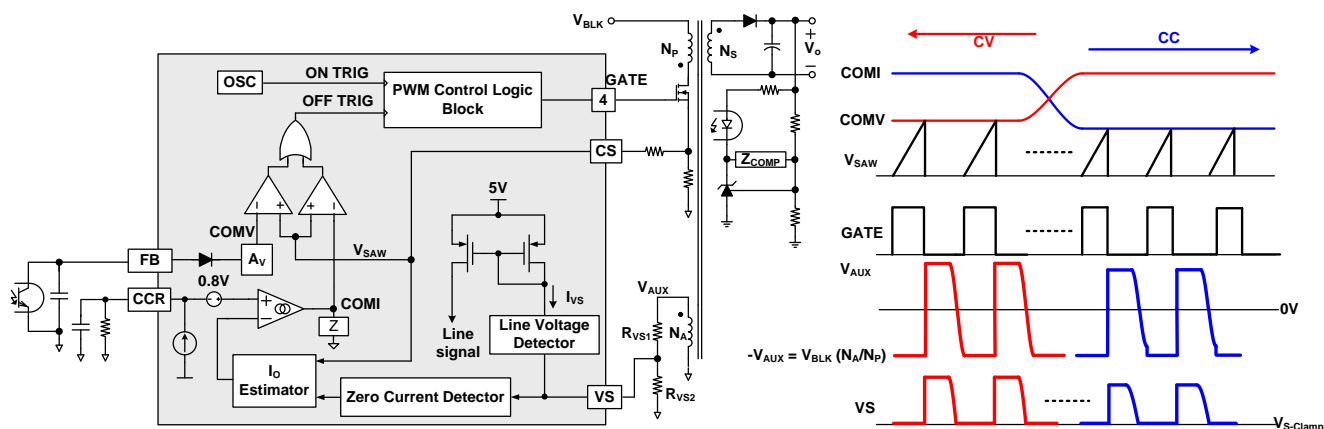

Figure 27 Simplified PWM Control Circuit and PWM Operation for CV/CC Regulation
The FAN604 indirectly senses the line voltage through the VS pin while the MOSFET is turned on, as illustrated in Figure 27. MOSFET turn-on period, the auxiliary winding voltage,  $V_{AUX}$ , is proportional to the input bulk capacitor voltage,  $V_{BLK}$ , due to the transformer coupling between the primary and auxiliary windings. During the MOSFET conduction time, the line voltage detector clamps the VS pin voltage to  $V_{S-Clamp}$  (0 V), and then the current  $I_{VS}$  flowing out of VS pin is expressed as:
Figure 27 shows a simplified CV / CC PWM control circuit of the FAN604. The Constant Voltage (CV) regulation is implemented in the same manner as the conventional isolated power supply, where the output voltage is sensed using a voltage divider and compared with the internal reference of the shunt regulator to generate a compensation signal. The compensation signal is transferred to the primary side through an opto-coupler and scaled down by attenuator  $A_V$  to generate a COMV signal. This COMV signal is applied to the PWM comparator to determine the duty cycle.
These two control signals, COMV and COMI, are compared with an internal sawtooth waveform ( $V_{SAW}$ ) by two PWM comparators to determine the duty cycle. Figure 27 illustrates the outputs of two comparators, combined with an OR gate, to determine the MOSFET turn-off instant. Either of COMV or COMI, the lower signal determines the duty cycle. During CV regulation, COMV determines the duty cycle while COMI is saturated to HIGH level. During CC regulation, COMI determines the duty cycle while COMV is saturated to HIGH level.